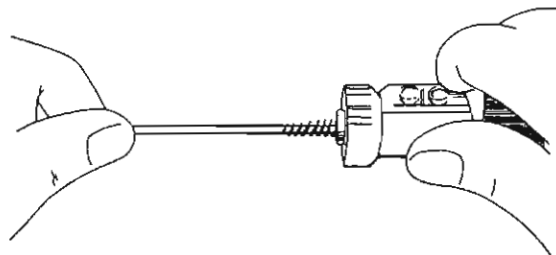

Figure 2-24. Cleaning internal drive socket.
- (5) Scrub the handpiece thoroughly with the drive cleaning brush and mild detergent. All traces of blood, coagulated material, disinfectant stains, etc., should be removed, particularly from the internal drive socket (fig 2-24) of the handpiece.